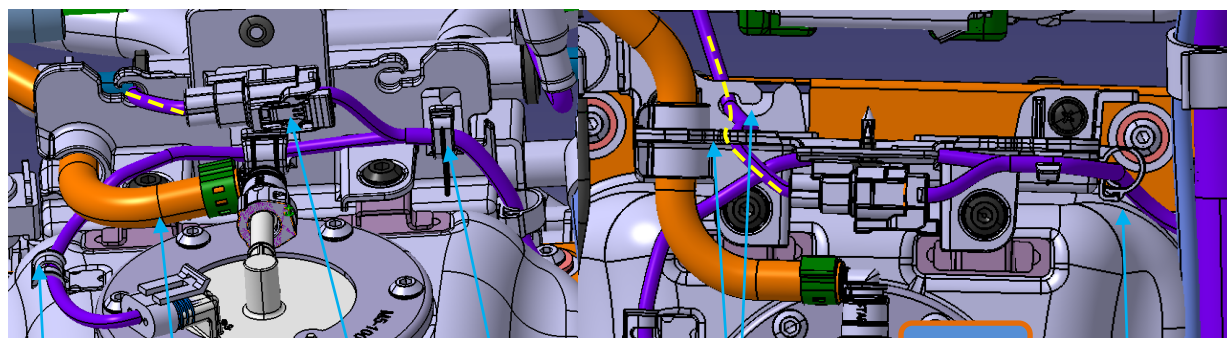

Figure 22
(1) Secure the oxygen sensor harness through the fuel tank heat shield slot, route it along the heat shield to the top, and pass it through the heat shield slot to secure the connector onto the heat shield. Secure the fuel pump branch cable to the fuel tank heat shield with cable clamp (Φ12) (91402-M62A-0001). Branch the harness after passing it through cable clip 1, then mate the oxygen sensor main cable connector with the sensor-end connector, as shown in Figure 22;